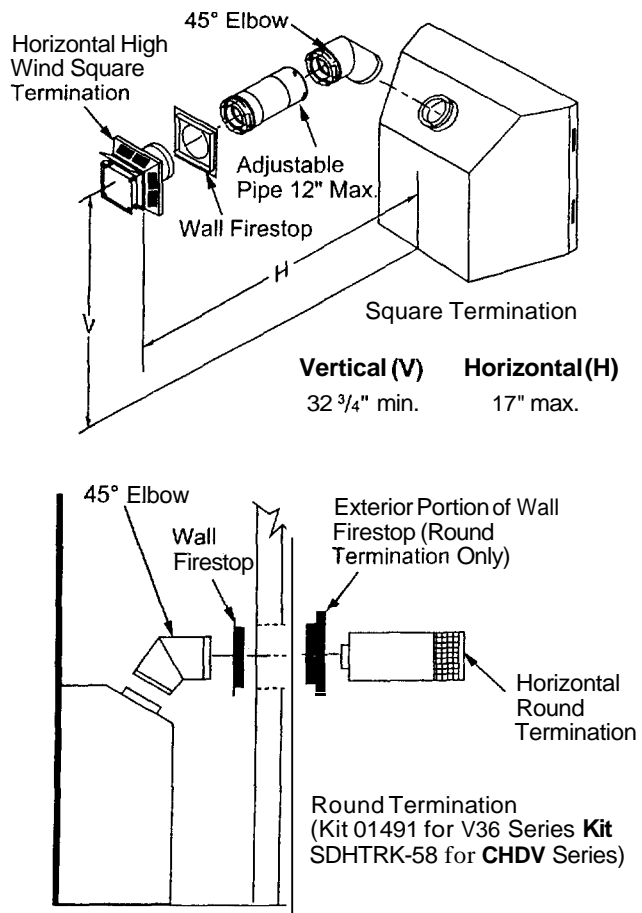

Figure 14- Horizontal Termination Configuration for Square or Round Terminations
**IMPORTANT:** Horizontal square terminations require only inner portion of wall firestop. Horizontal installations using round termination require exterior portion of wall firestop available only in vent kit 01491 for V and VV Series or SDHTRK-58 for CHDV Series (see Figure 14, page 10).
1. Set the fireplace in its desired location and determine the route your horizontal venting will take. Do not secure the fireplace until all venting has been installed. Some installations require sliding the fireplace in and out of position to make final venting connections. Figures 14 through 18 on pages 10 through 12 show different configurations for venting with horizontal termination that will help you decide which application best suits your installation. Check to see if wall studs or roof rafters are in the path of your desired venting route. If they are, you may want to adjust the location of the fireplace.
Figures 14 through 18 show different configurations and alternatives for venting with horizontal termination. Each figure includes a chart with critical minimum and maximum dimensions which **MUST** be met. **IMPORTANT:** Remember that a horizontal run of venting must have a 1/4" rise for every 12" of run toward the termination.